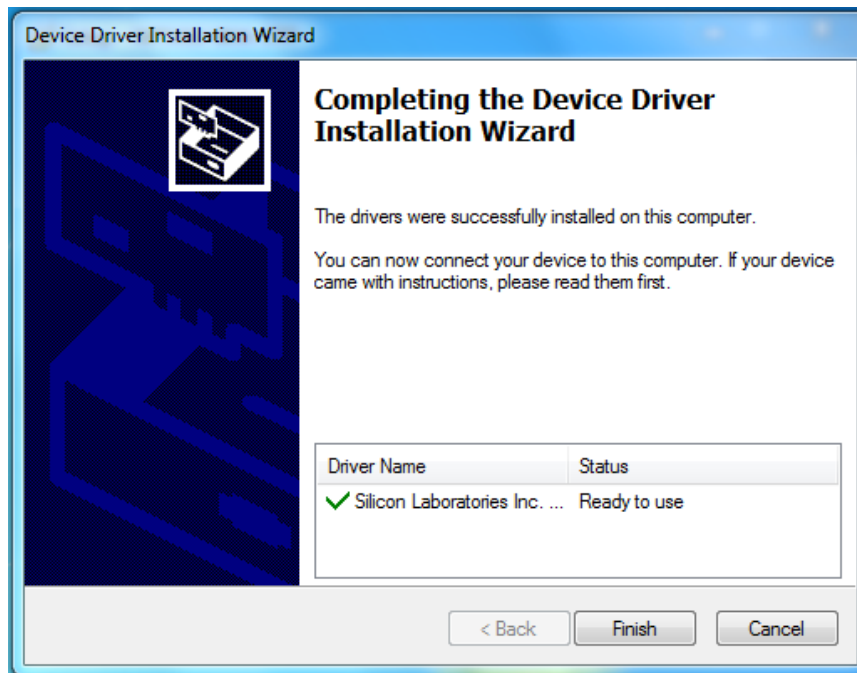

Figure 5: Driver Set-Up Success
3. Wait for status screen to verify that installation is complete (see Figure 5).